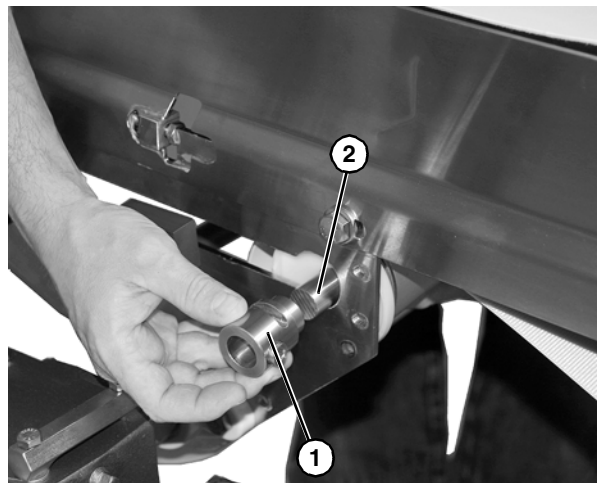

Figure 42
14. Remove locking collar (**Figure 42, item 1**) from tensioner assembly shaft (**Figure 42, item 2**).